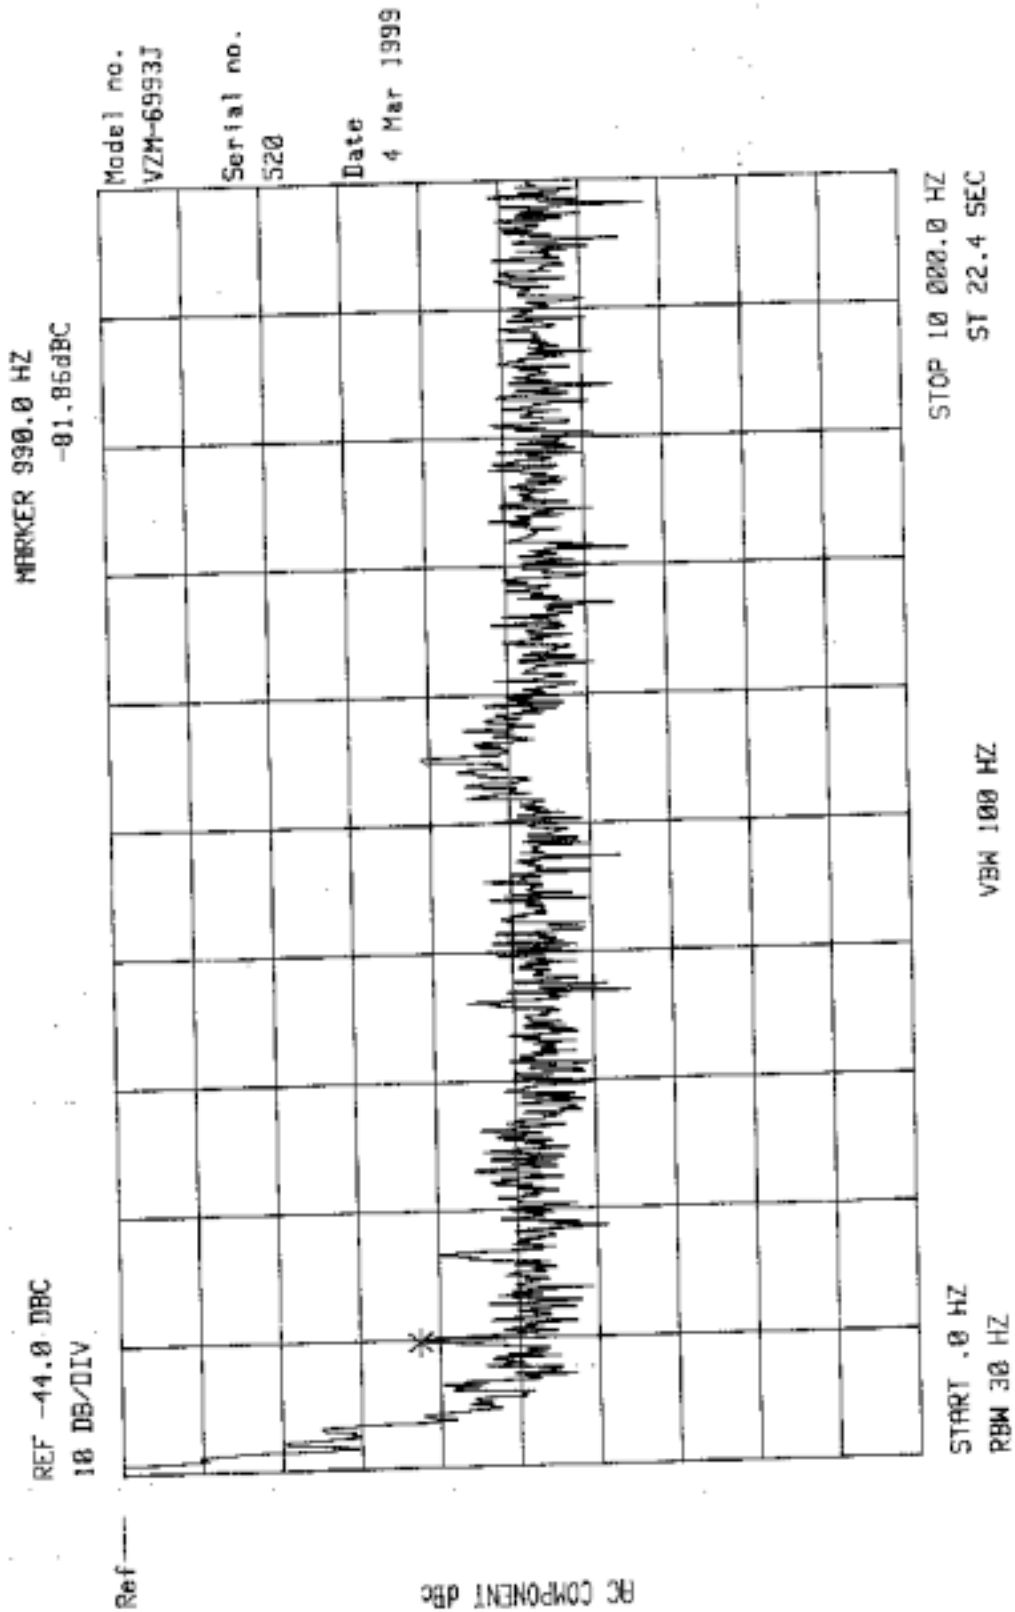

Figure 6. Residual AM 0 kHz to 10 kHz
- 4. Residual AM See Figures 6, 7 and 8